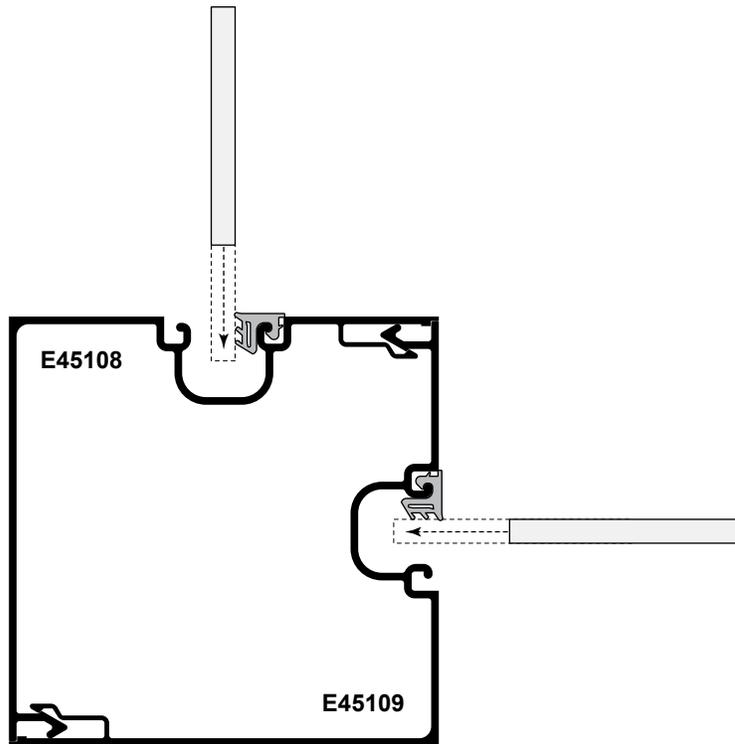

Fig. 41.2
- A. Install the glass as shown in Fig. 41.2.